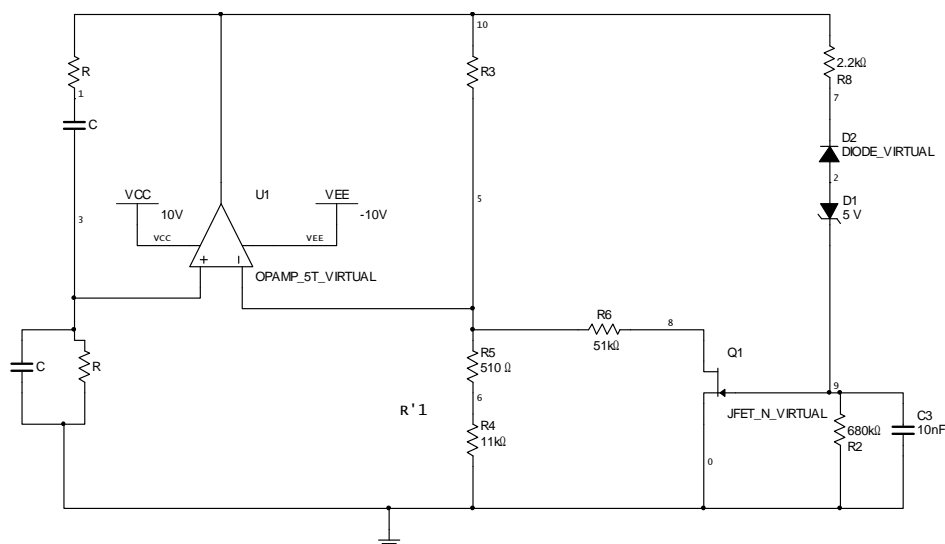

Figure 3- 4 AGC using FET
Using the above defined principle, we are going to make the resistance $R1$ of Figure 3- 1 variable with the output amplitude. In the above figure (Figure 3- 4), the resistance $R'1$ is the
* Implement the circuit of Figure 3- 4.